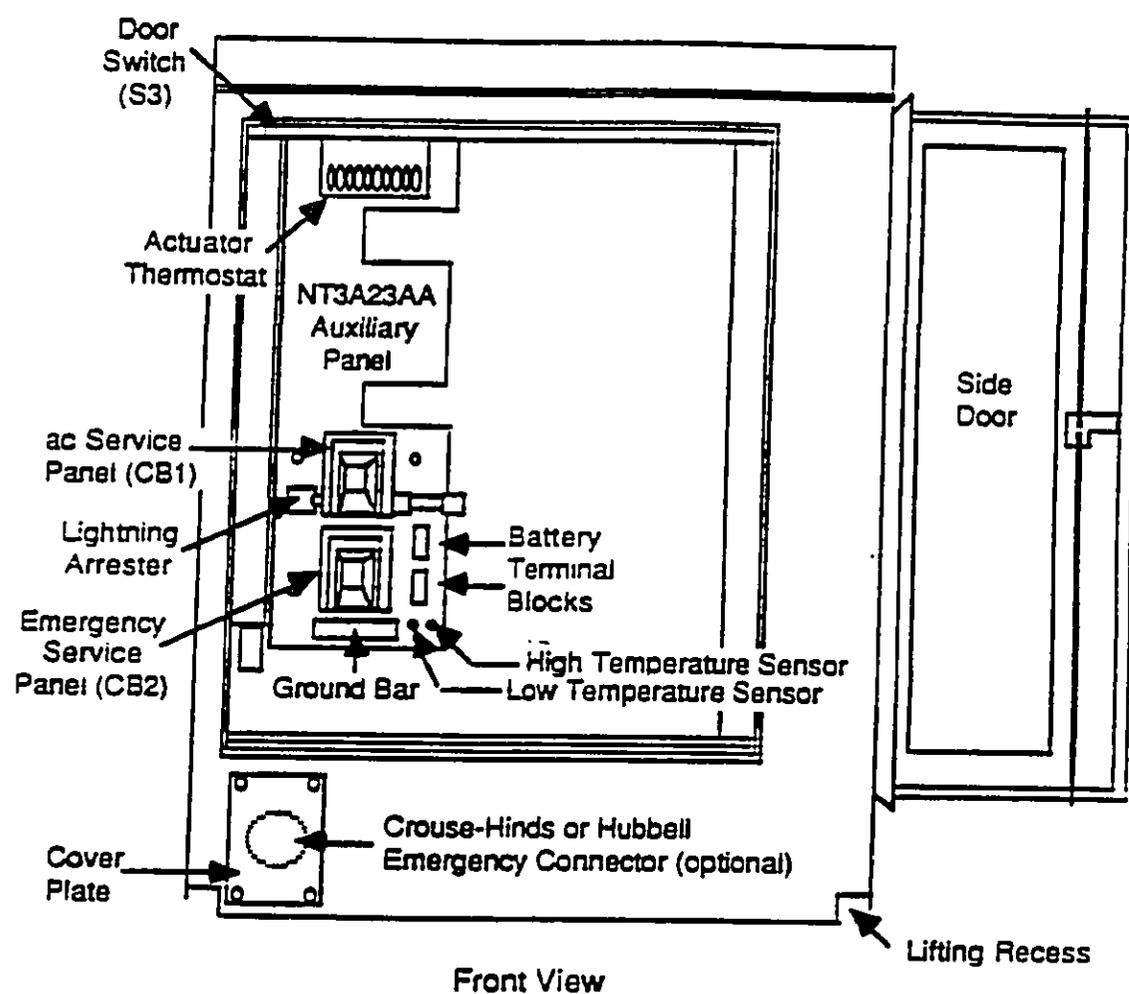

Fig. 1-2
1.08 The rear wall of the electronics compartment houses the ac and emergency service panels, the ground bar, the battery terminal blocks, and the high and low temperature thermostats (see Fig. 1-2).
**1.26** A removeable connector plate, which is fastened to the base of the cabinet with 7/16 in. (10 mm) hex nuts, provides access to the optional emergency connector. The two options available are the Crouse-Hinds and the Hubbell 30 A, three-wire, four pole male connectors. When field installed, the outlet box is bolted to the wall plate (see Fig. 1-2).